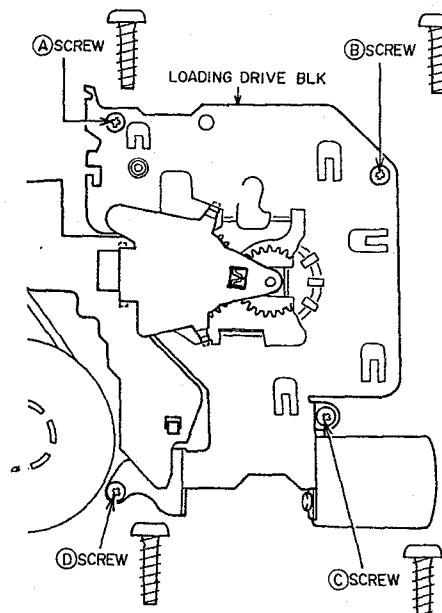

Fig. 3-7
- 2) Unhook the five wires from each tab. Two wires from the SENSOR (S), two wires from the LOADING MOTOR and one wire from the REC SAFETY SWITCH.
- 3) Remove the ④, ⑤, ⑥ and ⑦ screws, then remove the LOADING DRIVE BLK as shown in Fig. 3-7.